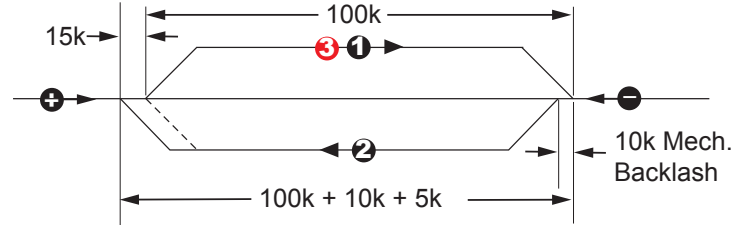

Figure 5.5 Backlash compensation Mode 1: Mechanical
Figure 5.5 illustrates Mode 1 operation using the assumption that backlash is taken up and the axis “loaded” in the plus (+) direction before the first move:
- 2) The example in Figure 5.5 assumes 10k steps of mechanical backlash, set BL (Backlash Amount) to 15000 (or some value greater than 10000)
- 3) Move ❷ indexes the axis minus (-) 100k steps but due to 10k steps backlash, the (uncompensated) physical movement of the axis would only be 90k steps. Since Move ❷ is opposite the sign of the compensation, 15k sites of compensation is added giving a sum of 115k steps. Because of the physical backlash, the result would be a 5 unit overshoot.
- 4) On execution of Move ❸, the axis moves back in the plus (+) direction 15k steps – 10k to take up backlash and 5k to go to the correct position and “load” the axis again.